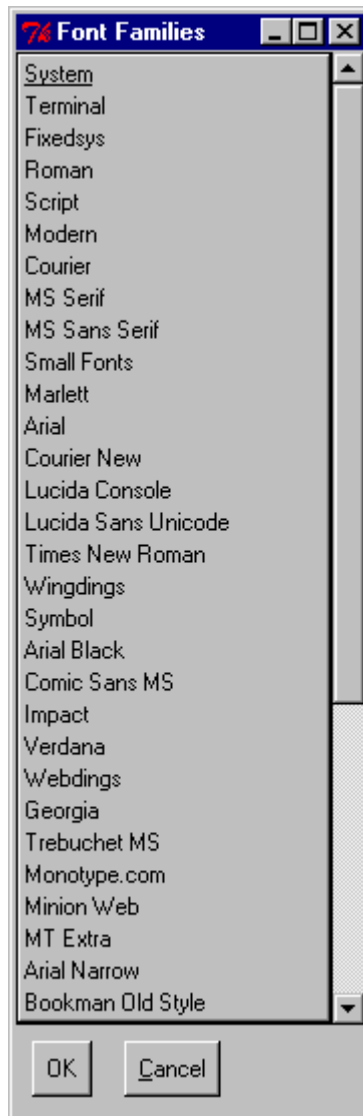

Figure 5-7. Font Family Selection Dialog Box
3. *Click Family. . .* The Font Families selection dialog box appears. Figure 5-7 shows the Font Families selection dialog box.